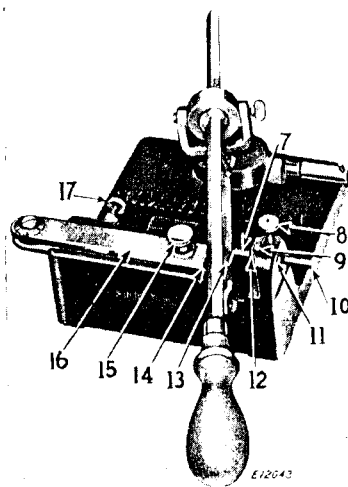

Fig. 26. Knife Hone 259283 with Knife in Position Ready to Sharpen
For 30° cutting angle knives the upper knife stop pin (7, Fig. 26) should be set flush with the outside surface of the casting (11, Fig. 26) so that the pin extends to the left toward the knife holder slide. Larger cutting angles may be obtained by moving the knife stop pin (7, Fig. 26) to the right. When flush with the inside surface of the casting (12, Fig. 26), the cutting angle will be honed to 45°.
The knife stop pin (10, Fig. 26) not being used should be set as far as possible to the right, then tighten screws (8 and 9, Fig. 26).
Clamp knife into position on knife holder (14, Fig. 26) and tighten thumb screw (15, Fig. 26), slide holder (16, Fig. 26) into position on base until knife rests against the stop pin (7, Fig. 26), tighten knife holder set screw (17, Fig. 26), place hone (13) in position as illustrated in Fig. 26 and proceed to hone knife. Care should be taken not to press down too heavily on the knife.